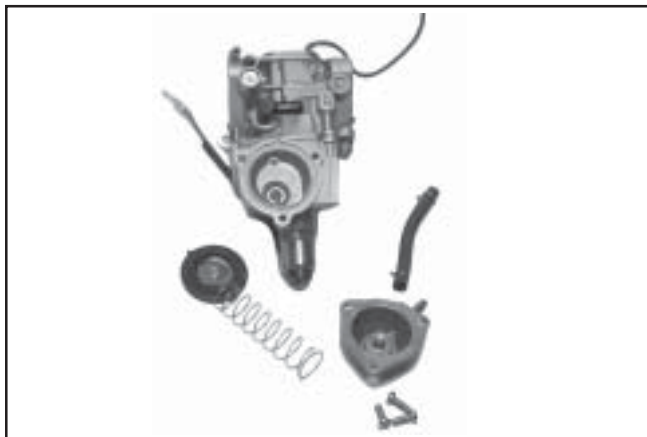

Figure 5-30. Accelerator Pump Cover and Diaphragm Removed.
2. Remove the three screws securing the cover to the accelerator pump housing. Remove the cover, spring, and diaphragm. See Figure 5-30.